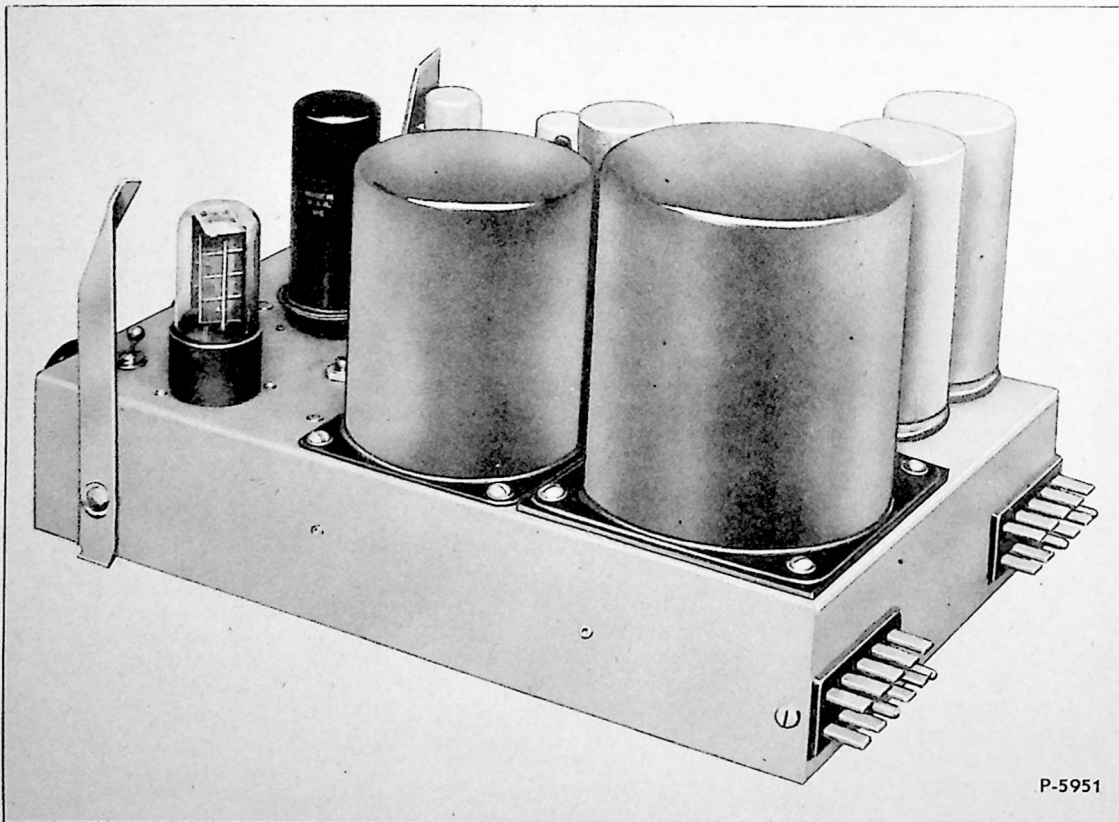

Figure 6—Rear view of Type BA-3A Program Amplifier.
9. All connections to the amplifier enter the unit through the two 10-prong plugs mounted on the rear panel of the chassis. The input plug is to the left (as viewed from the front of the amplifier) and the output plug is to the right directly behind the power transformer. A view of these plugs is shown in figure 6. Two identical 10-prong sockets designed to mate with the amplifier connection plugs are included in the kit which is supplied with each amplifier. Connections to these sockets are shown in paragraph 25.